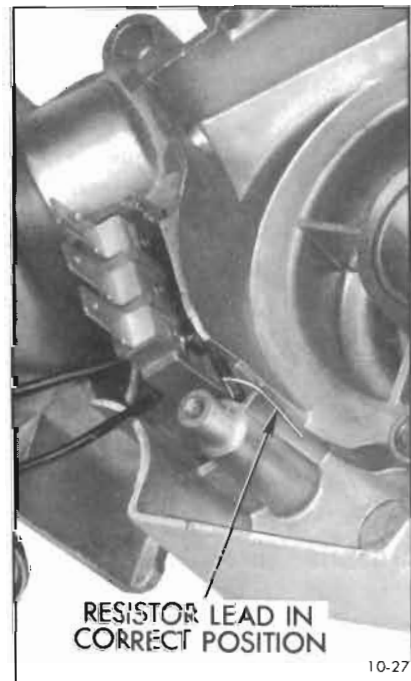

Figure 10-27—Installing Terminal Board
2. Slide terminal board into wiper housing being careful to position the terminal board resistor lead as shown in Figure 10-27.